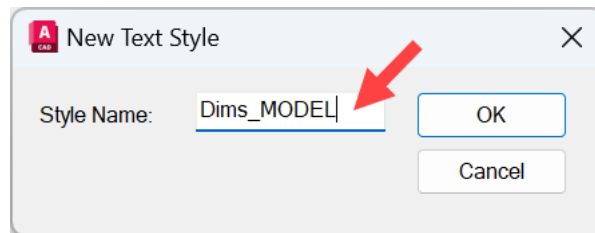

Figure 7.4: Creating a new text style
4. To create a new text style, click on **New...** You will be prompted for a new text style name, as shown in *Figure 7.4*.